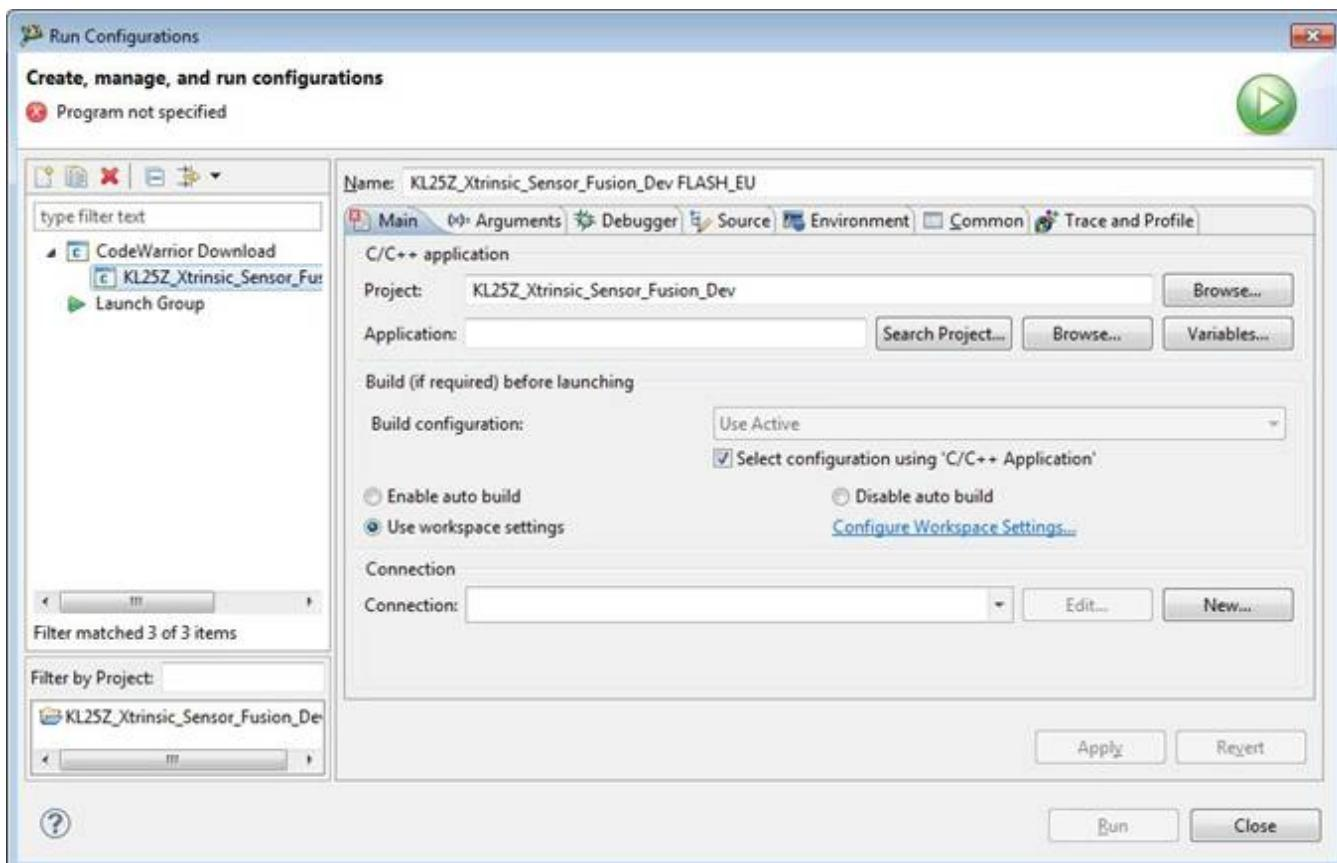

Figure A-2. CodeWarrior creating new launch configuration
2. Select **CodeWarrior Download** and then click the New Launch Configuration icon on the left, see Figure A-2.
3. Click the **New...** button to the right of the Connection field, see Figure A-2.